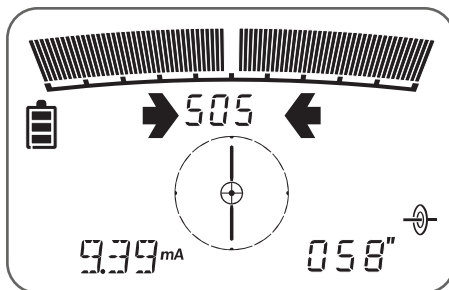

Figure 2
**NOTE: To display depth and current readings, the locator must be orientated in line with the target by using the compass and left / right arrows. The compass feature and left / right arrows in Figure 2 show the locator directly in line with the target.**
Figure 2 shows the locator in Guidance Mode and directly over the target line. In this position the left and right arrow heads will be displayed simultaneously, target position indicator in the centre, the signal strength value at its maximum, speaker tone silent and both depth and current readings at their minimum.